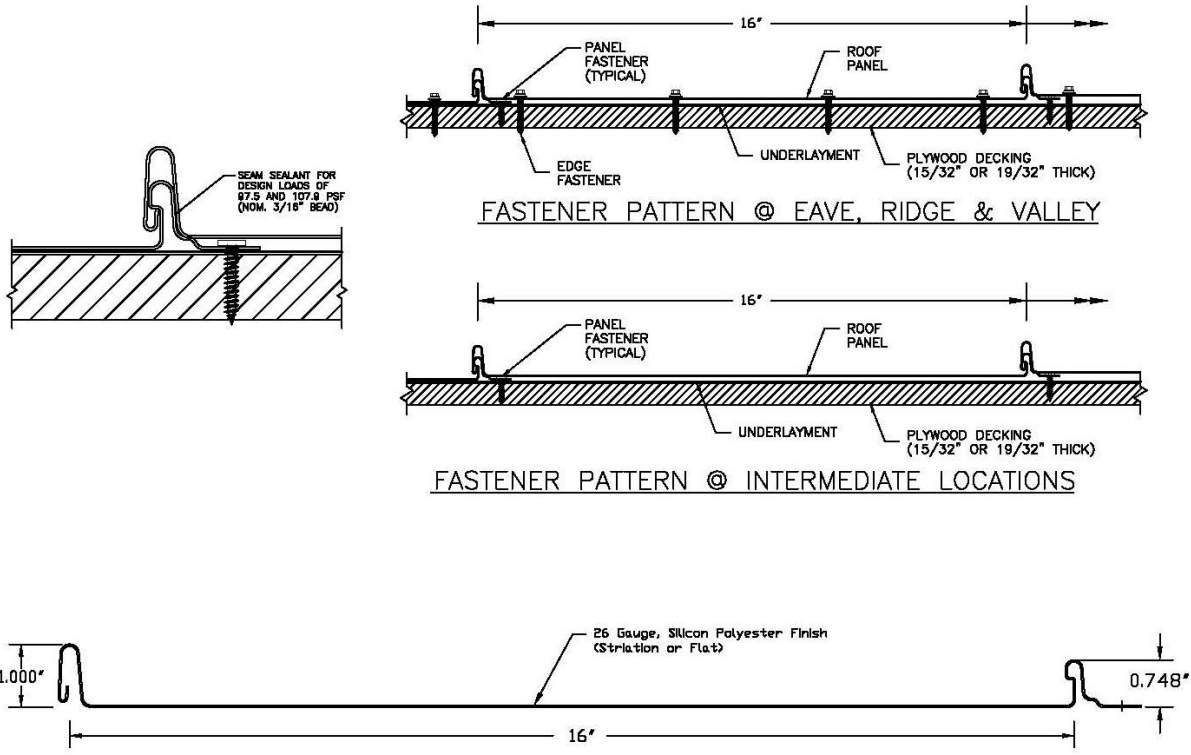

Figure 1. Advantage-Lok II Panel Detail (Minimum 26-Gauge)
**Roof Panels:** Minimum No. 10-12 x 1" long, pancake head screws with a self-sealing washer. The fasteners must be long enough to ensure a minimum penetration of 1/4" below the roof deck. (Note: If the metal panels are installed over an existing roof covering, then the fastener length must be increased so that the fasteners are long enough to ensure a minimum penetration of 1/4" below the existing plywood roof deck). Apply fastener at the fin of the male leg. The spacing of the panel fasteners along the length of the fin of the panel must be as specified in Table 1. Apply the female leg of the next panel over the male leg of previous panel. Refer to Figure 1 of this evaluation report. **Seam Sealant:** A continuous, 3/16" wide bead of
Sikaflex 201 sealant must be placed between the male leg and the female leg as shown in Figure 1 of this evaluation report. Refer to Table 1 to determine if the sealant is required.
**Panel Ends:** Minimum No. 9-15 x 1-1/2" long, hex head screws with a self-sealing washer. The fasteners must be long enough to ensure a minimum penetration of 1/4" below the roof deck. (Note: If the metal panels are installed over an existing roof covering, then the fastener length must be increased so that the fasteners are long enough to ensure a minimum penetration of 1/4" below the existing plywood roof decking.) A line of four (4) fasteners are to be installed across the width of the panel. Refer to Figure 1 (Fastener Pattern at Eave, Ridge, and Valley) of this evaluation report.